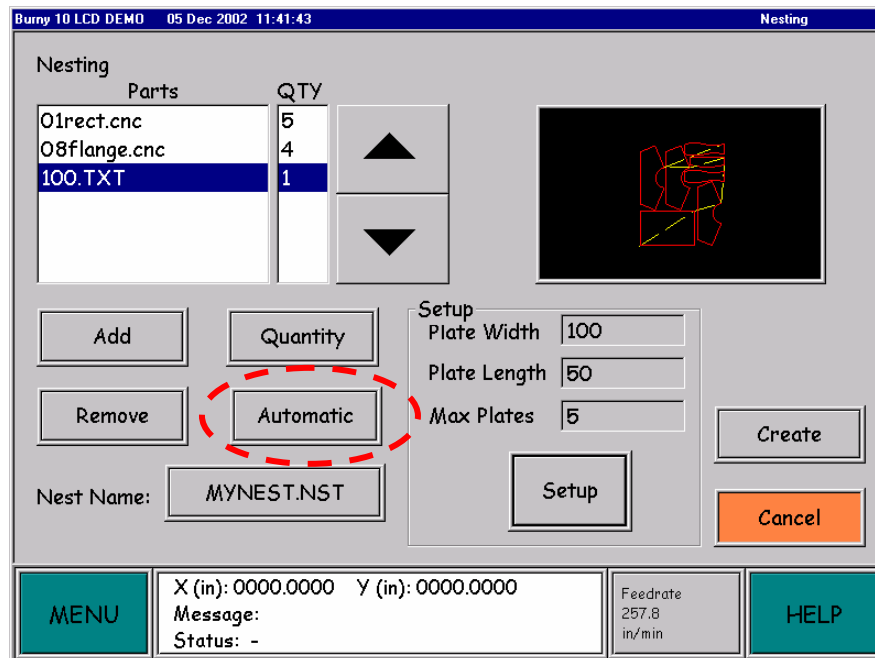

Figure 6 - Nesting Screen with Automatic Selected
**Interactive Nesting** allows placement of parts on the plate and positioning them where desired. To access the TurboNest program toggle the Automatic/Interactive button on the Nesting Screen (ref Figure 6) to **Interactive**. When the **Create** button is pressed the TurboNest program will load.